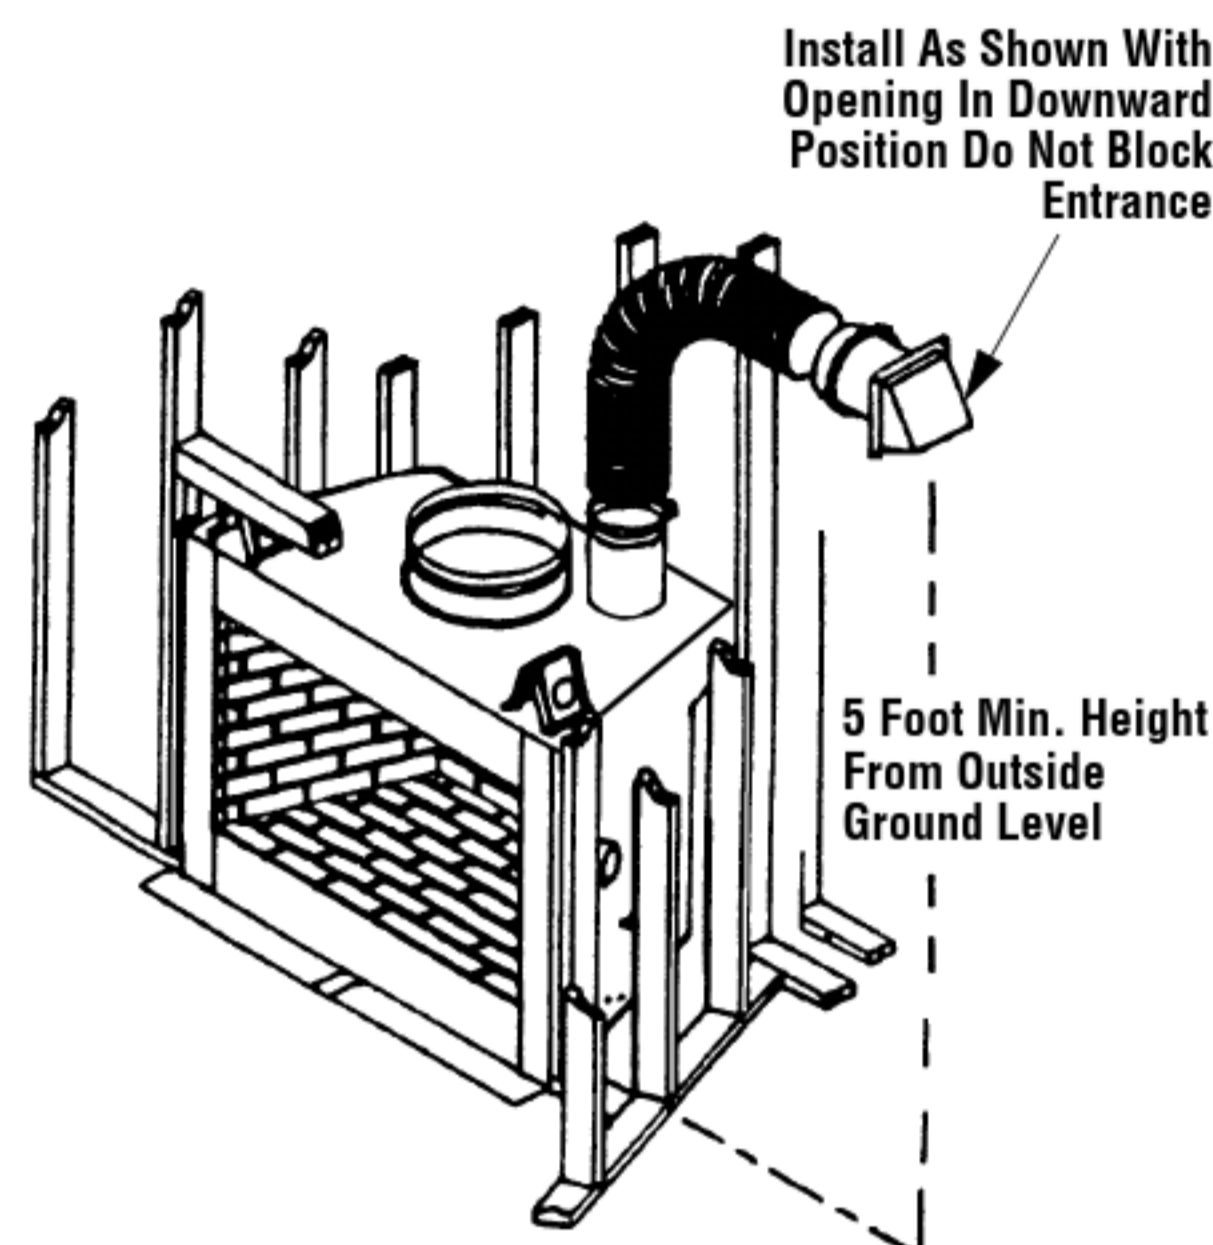

Figure 19
Step 6. Connect the 6" (102 mm) Class 0 air duct provided by installer, to the duct collar on the fireplace and secure with two (2) screws from the kit's hardware package.
Step 7. Route the Class 0 air duct out the back or side wall, up through the ceiling or floor joists to an outside wall. The air inlet hood should be located above snow level or above any anticipated snow level, (*Figure 19*).